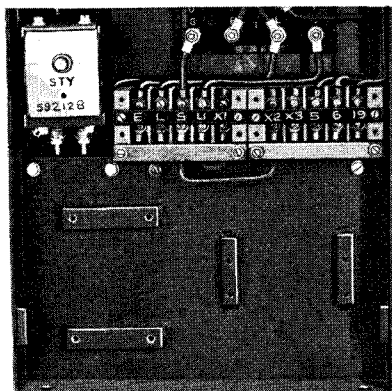
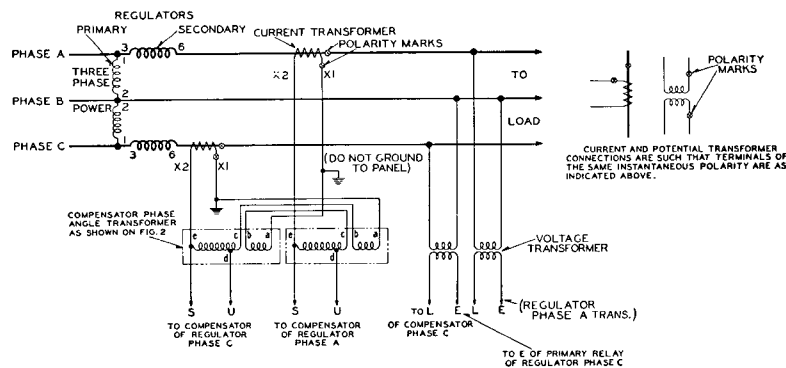

FIGURE 1.
FIGURE 4
- (1) Remove jumper XI to U as shown in Fig. 1.
*If X1 of each current transformer is grounded as shown in schematic diagram Fig. 4, then these two wires can be combined as one wire making only three wires between regulators.
CAUTION: Check connections carefully as per schematic diagram Fig. 4. In tracing connections on panels of outdoor type regulators, it will be found convenient to turn this instruction sheet upside down when viewing Figs. 1 and 3 for direct comparison.